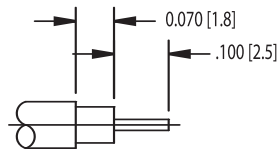

FIGURE 1
1. TRIM CABLE TO DIMENSIONS SHOWN. DO NOT NICK CENTER CONDUCTOR. (SEE FIG. 1)